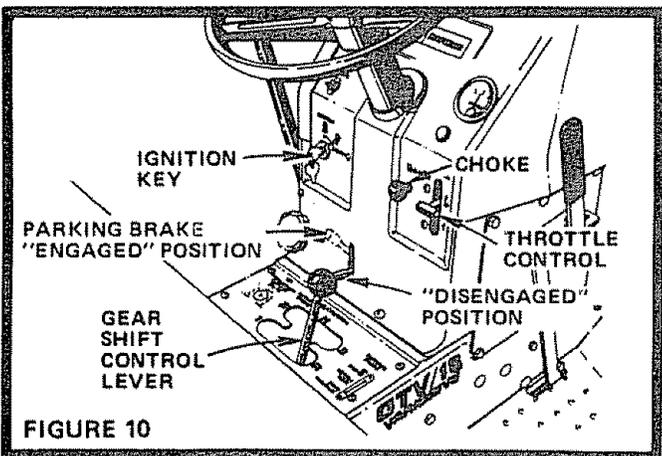

FIGURE 10
3. Place Parking Brake Lever in "ENGAGED" position (Fig. 10).
5. Pull Choke out (Fig. 10)
6. Move Throttle Control to middle position (Fig. 10).
7. Turn Ignition Key to "START" position until Engine starts (Fig. 10). Release key into "ON" position.
3. Move Gear Shift Control Lever to desired gear (Fig. 10).